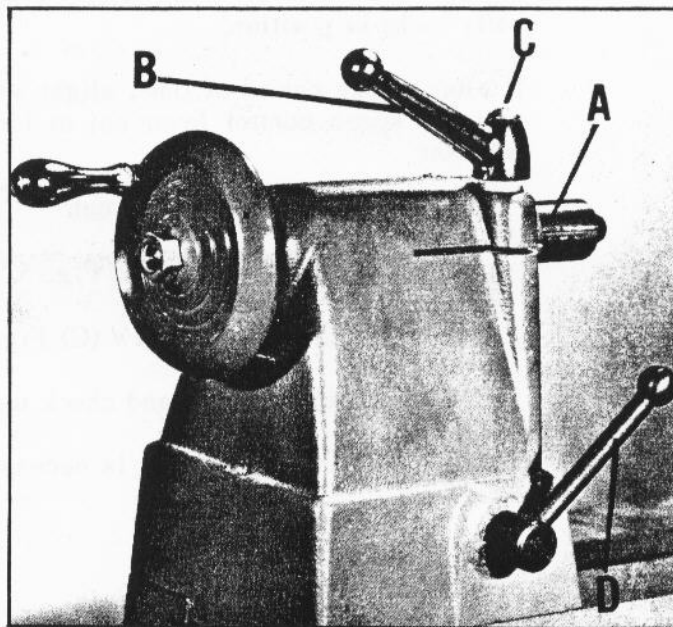

Fig. 7.
The ram (A) Fig. 7, is locked by turning the ram locking lever (B) to the right. It has been set at the factory to lock in a convenient position. If repositioning becomes necessary, remove screw (C), lift off lever (B) and reposition.
The tailstock is equipped with a cam type clamping lever (D) Fig. 7. It is actuated by moving the lever (D) in either direction.